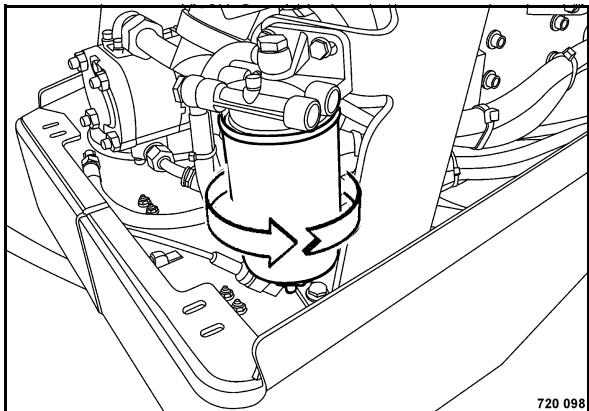

Fig. 114
- Apply a thin film of fuel to the seals and screw the new filter cartridge (Fig. 114) on hand-tight.